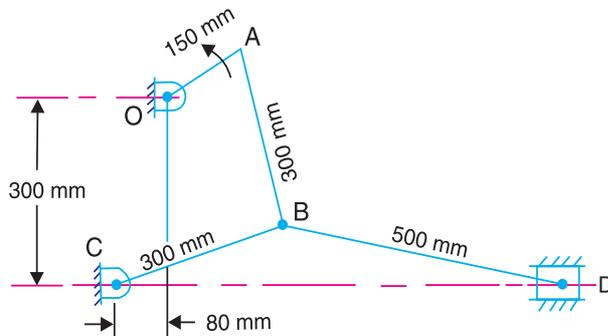

Fig. 7.41
11. Fig. 7.41 shows a toggle mechanism in which link  $D$  is constrained to move in horizontal direction. For the given configuration, find out : 1. velocities of points band  $D$ ; and 2. angular velocities of links  $AB$ ,  $BC$ , and  $BD$ .